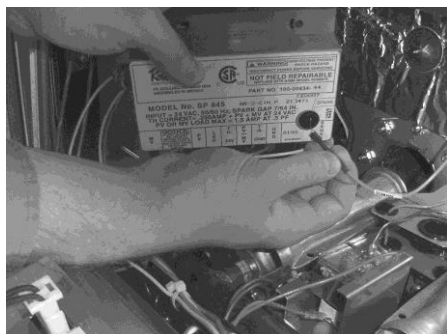

Figure 2-20
3. Disconnect the flame sense wire from ignition module. Figure 2-20.